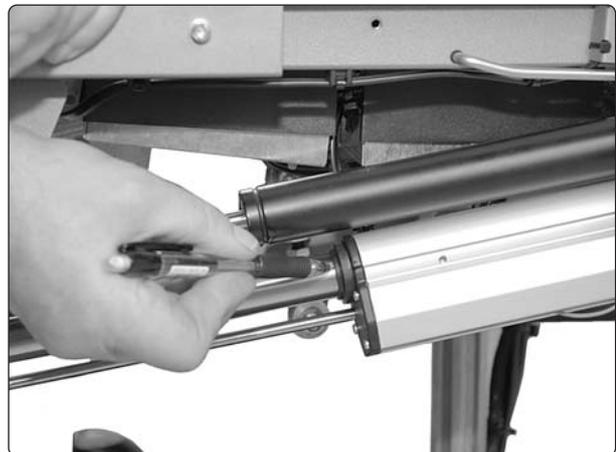

Fig. 80. Mark the piston of the stand function actuator.
4. Mark the piston of the stand function actuator with a pen, see Fig. 80.